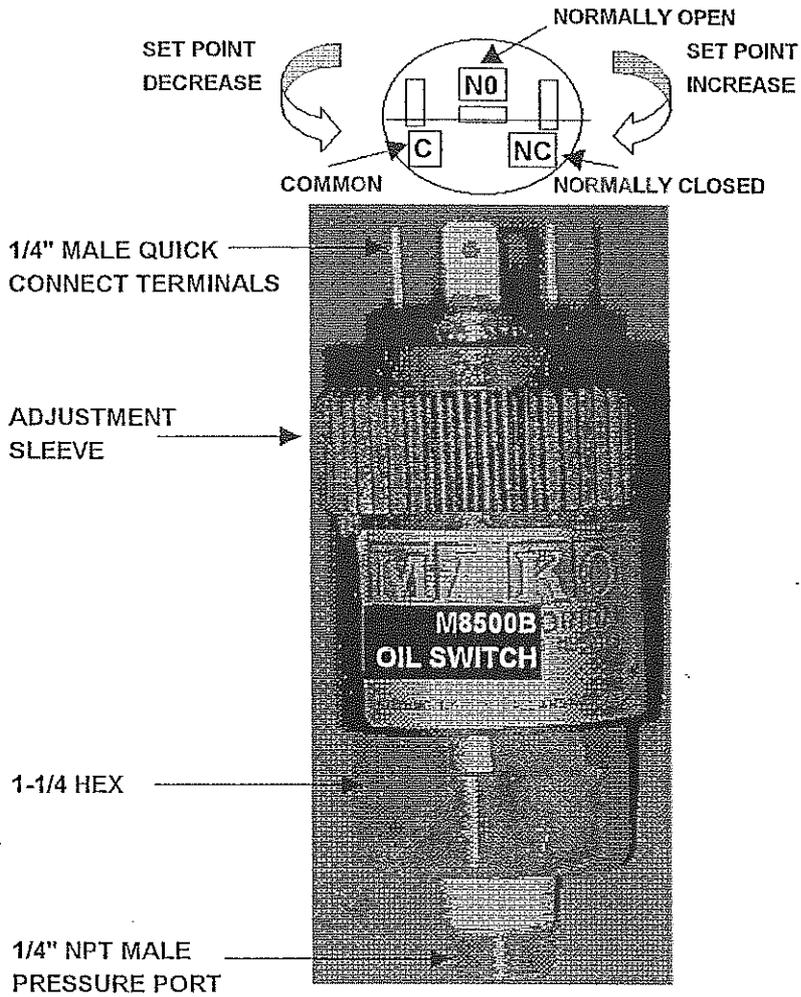

FIGURE 9-2 BARKSDALE OIL SWITCH
3. Slowly turn the switch adjustment sleeve shown in Figure 9-2 clockwise one quarter of a turn at a time. Prevent the switch body from rotating using a 1 1/4" end wrench.
**CAUTION:** IF IT IS NECESSARY TO REMOVE THE ELECTRICAL LEADS DURING THE ADJUSTMENT PROCESS BE SURE THEY ARE REINSTALLED CORRECTLY. THE ELECTRICAL CONNECTORS ARE CLEARLY MARKED ON EACH SWITCH AS SHOWN IN FIGURE 9-2.